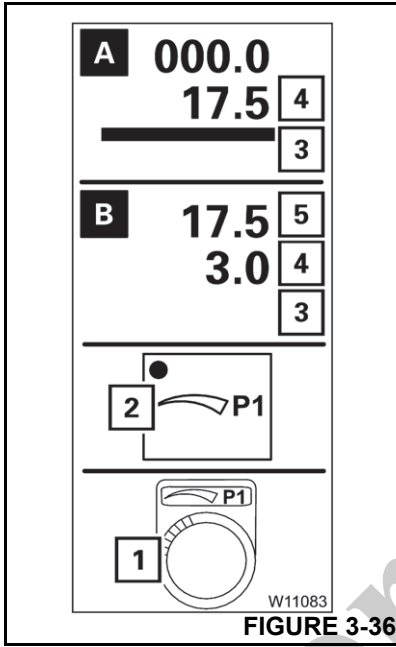

FIGURE 3-36
After pressing the appropriate button the bar (3) (Figure 3-36) is red, input mode on. To cancel the input press the **Esc** button once.